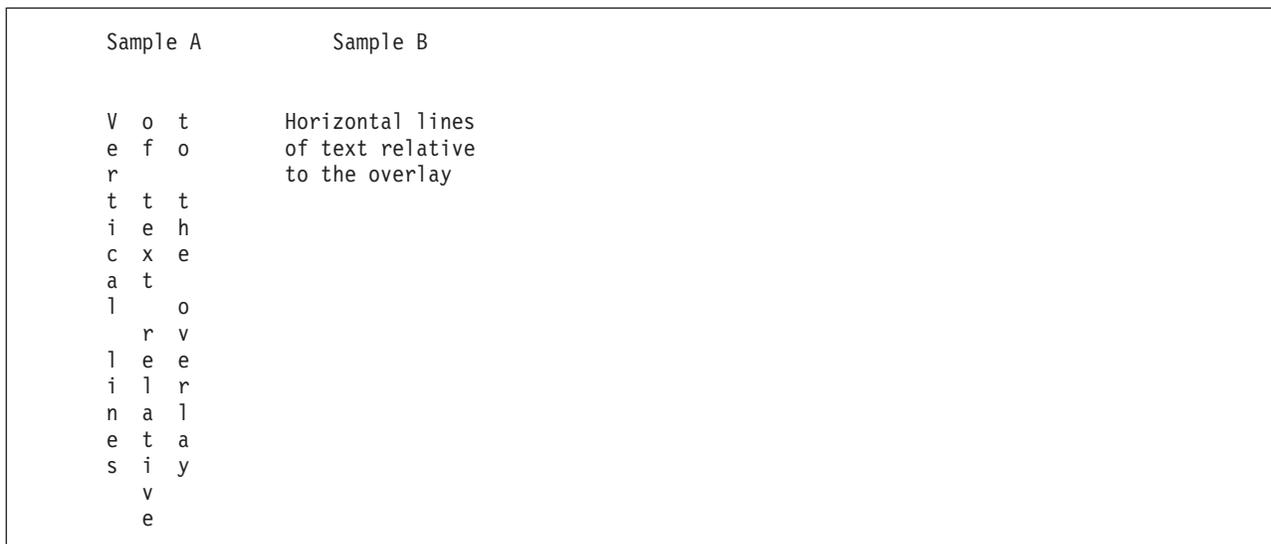

Figure 128. Choosing the Line-Spacing Default
- If you specify primary and secondary defaults, the primary default applies to line spacing for text strings that are vertical relative to the overlay. The secondary default applies to line spacing for text strings that are horizontal relative to the overlay. Sample A in Figure 128 uses the primary default as a line spacing unit of measurement. Sample B uses the secondary default.